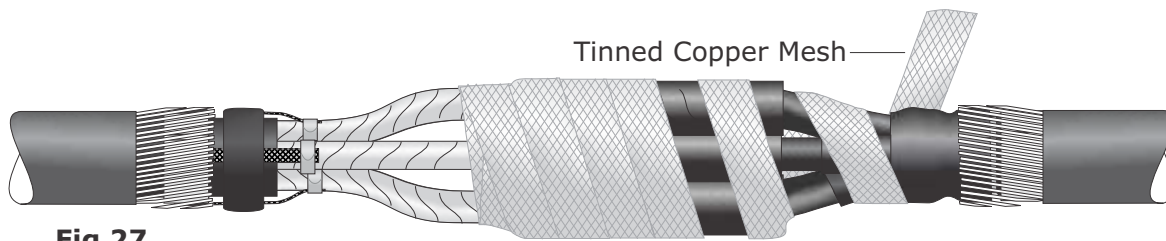

Fig 27
35. Using the tinned copper mesh, pull the cores together. Extend the mesh onto the semi-conductive tubes as shown in Fig 27.